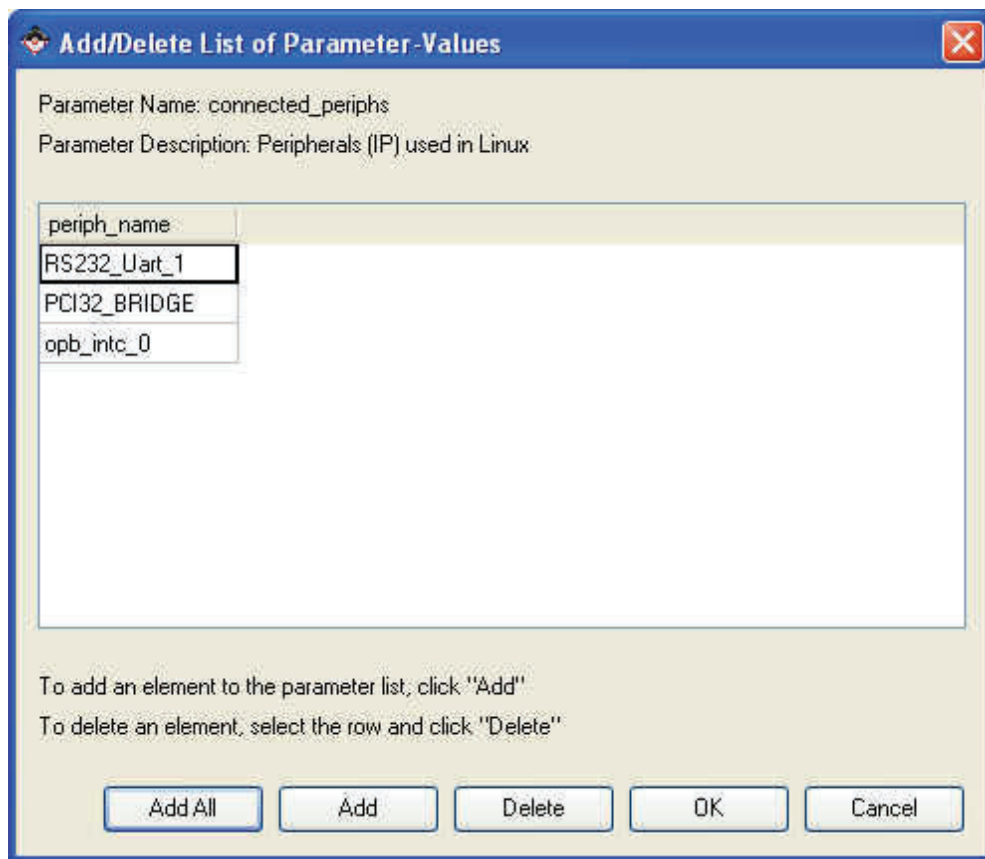

Figure 21: **Connected Peripherals**
6. Click **Connect_Periphs** and add the OPB_INTC, PLB_PCI, and OPB16550 peripherals, using the instance names shown in Figure 21.